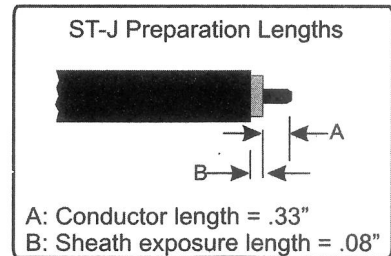

Fig.3
3. The prepared cable is depicted in Fig. 3